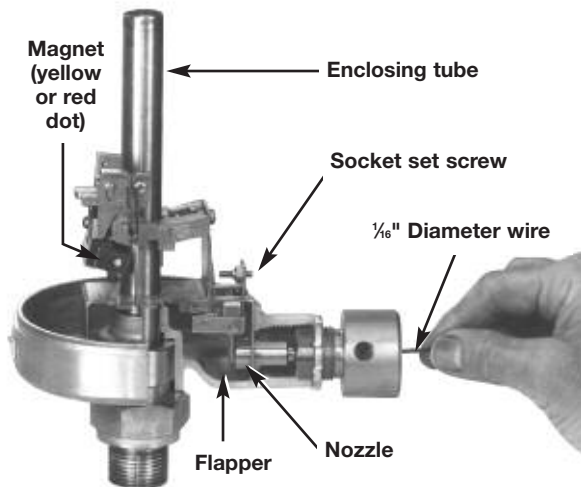

Figure 6
4. Insert a $\frac{1}{16}$ " diameter wire into the nozzle from the air line connection side. Refer to Figure 6. The wire may be moved back and forth to clean the opening of any accumulated matter.